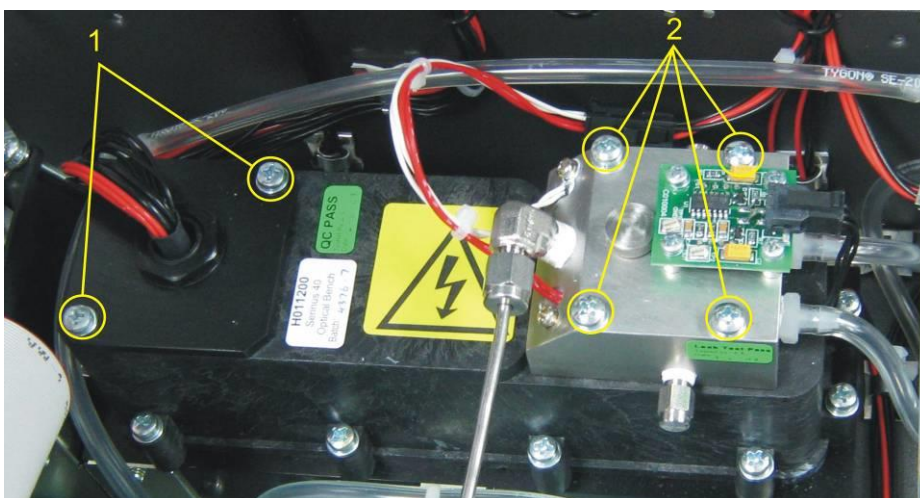

Figure 57 – Removing the reaction cell or desiccant pack
2. Using a Phillips head screwdriver, remove the desiccant pack access cap from the PMT housing (refer to Figure 57, label 1).
2. Disconnect the electrical and pneumatic fittings from the reaction cell, remove the four screws that secure the cell to the PMT housing, and remove the reaction cell from the PMT housing (refer to Figure 57).